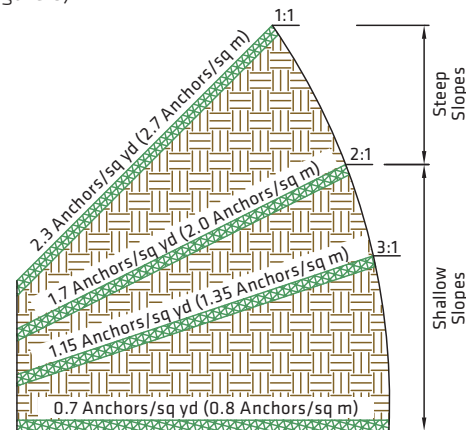

FIGURE 6 Slope Gradient Detail
- ▶ Consult the Slope Gradient Detail for recommendations on anchor quantities based on slope or bank steepness (Figure 6).